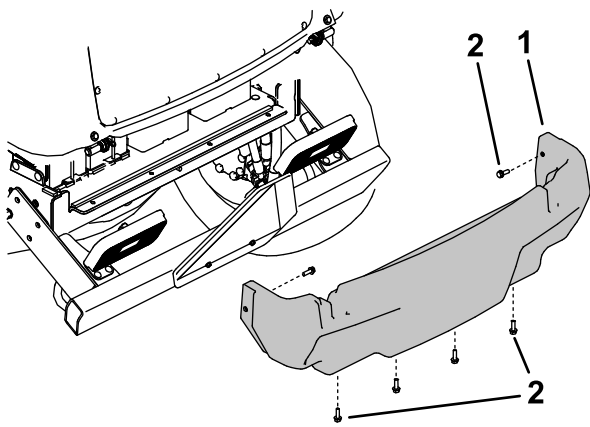

**Figure 108**
4. Loosen the knobs and remove both side shrouds (Figure 108).
5. Install the side shrouds (Figure 108).